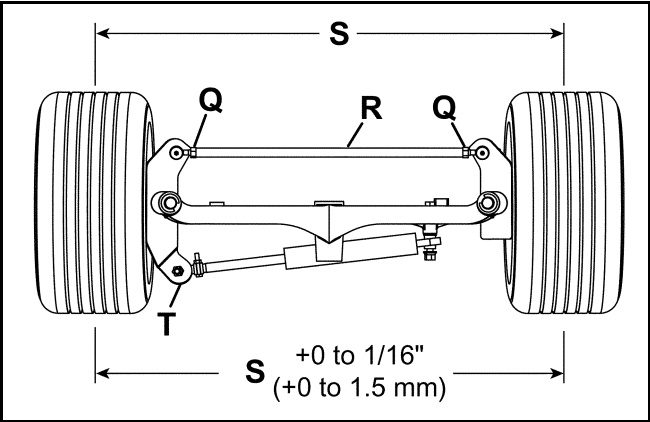

Figure 6E-1. Steering Adjustments
- 2. Loosen the jam nuts (Q) on both sides of the tie rod (R), see Figure 6E-1.
- 3. Turn the tie rod (R) to provide proper toe-in. Toe-in must not exceed 0.0625 in (1.5 mm) (S), see Figure 6E-1. Align the ball joints and tighten the jam nuts.
- 4. After adjusting the tie rod, adjust the steering cylinder by threading the ball joint (T) in or out so the spindle arm clears the stop on the axle by 0.0625 to 0.125 in (1.5 to 3 mm) when the cylinder is fully extended, see Figure 6E-1.